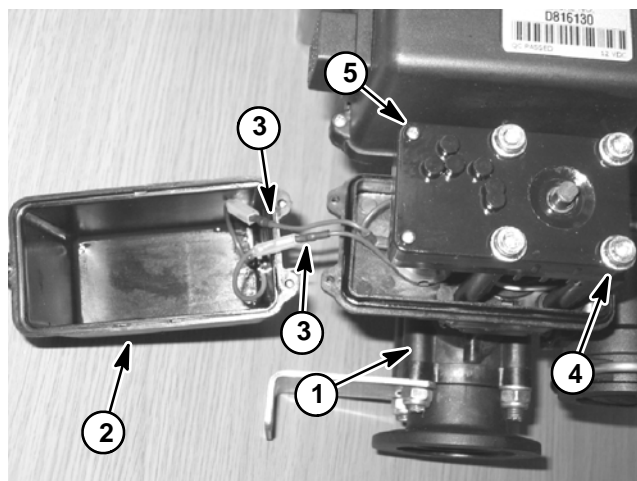

Figure 22
Valve Motor Cover Removal (Fig. 22)
1. Loosen three (3) screws that secure valve motor cover to valve motor assembly.
4. Make sure that all screws that secure valve motor are tight (Fig. 22).
Valve Motor Cover Installation (Fig. 22)